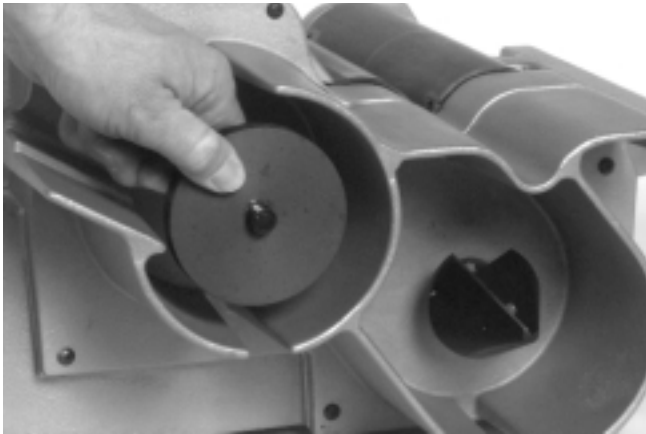

Figure 11 – Assembling Deburring Disk
3. Remove the brush and deburring disk. (*Figure 11*).